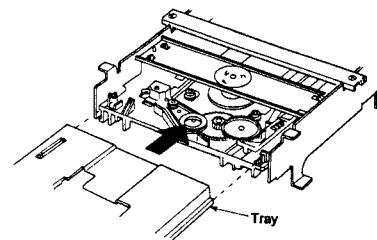

Figure 16
- (1) The Tray can be fitted into the mechanism unit as shown in Figure 16.
- (2) Gradually insert the Tray.